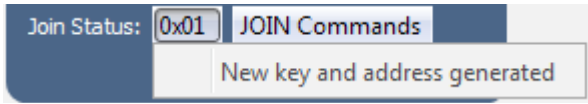

Figure 19: The Master Development System Software Join Status Register Description
10. The Join Status box shows the value in the JOINST register. This indicates the state of Join activity since the module was last reset. Clicking on the box opens a description of the value (Figure 19).